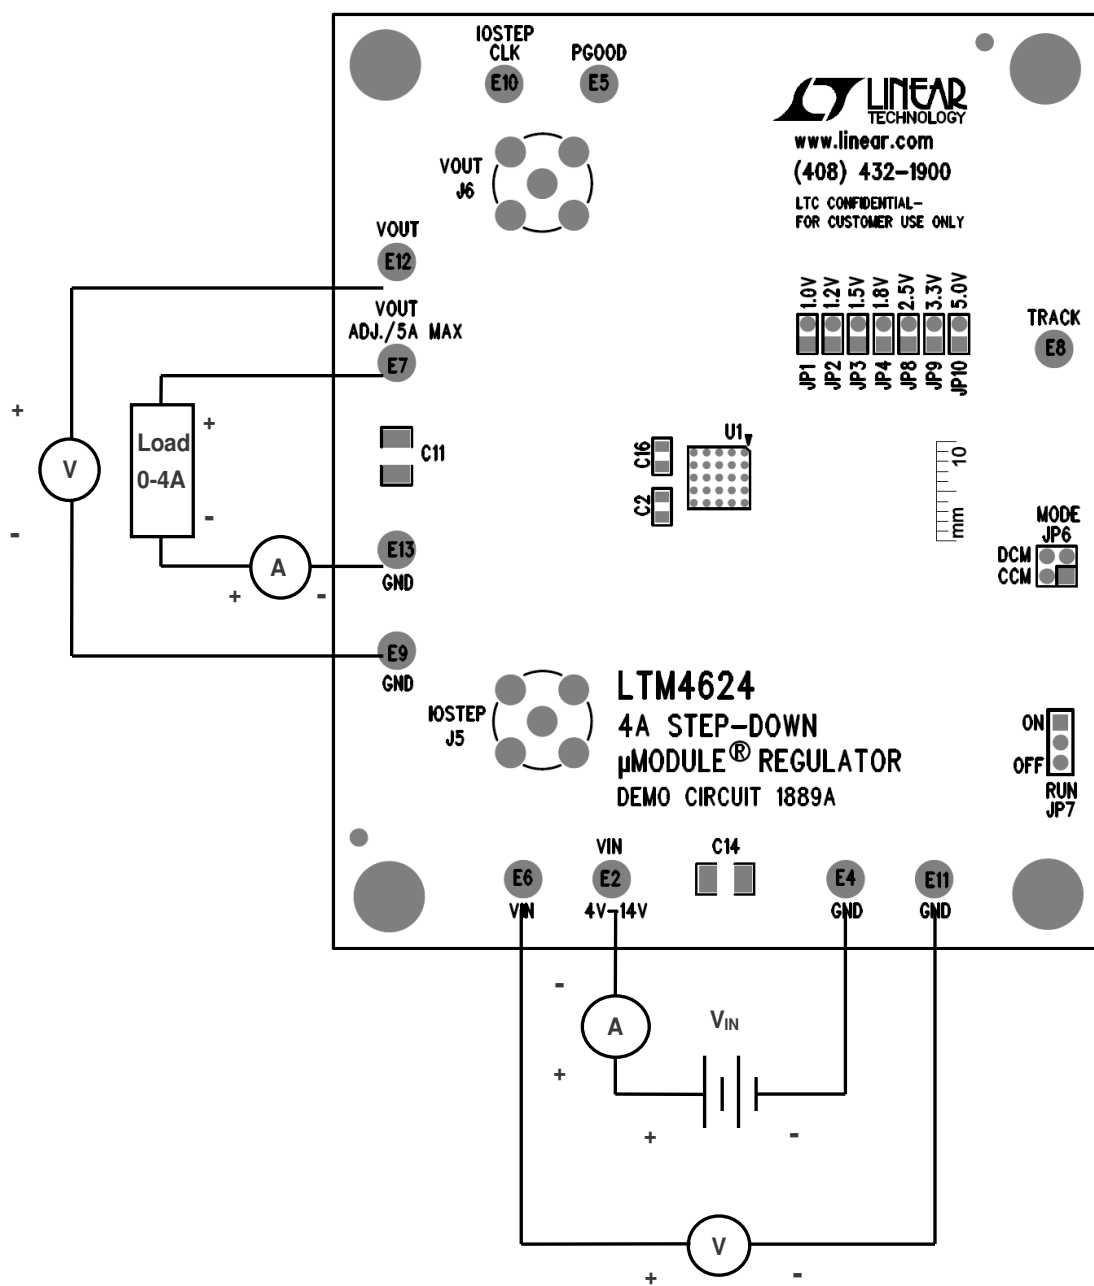

Figure 1. Test Setup
Demonstration circuit 1889A is an easy way to evaluate the performance of the LTM4624EY. Please refer to Figure 1 for test setup connections and follow the procedure below.
3. With power off, connect the load, input voltage supply and meters as shown in Figure 1.